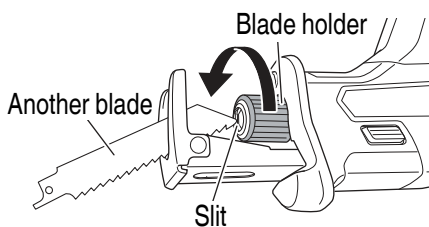

Fig. 14
- (1) If a part of the broken saw blade is sticking out of the small slit of the blade holder, pull out the protruding part and take the blade out.
- (2) If the broken saw blade is hidden inside the small slit, hook the broken blade using a tip of another saw blade and take it out. (Fig. 14)